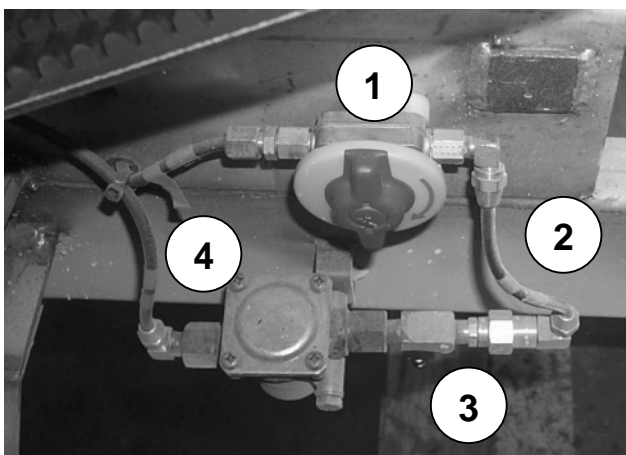

Figure 9: C2045 - Release valve (1) with pressure regulator (4), check valve (2) and test fitting (3)
- 2) Remove all bellows pressure by rotating the release valve (see Figure 9) clockwise. Allow the compressor to tilt towards the engine. Remove the powerband.
Locate the pressure regulating valve (4, Figure 9).